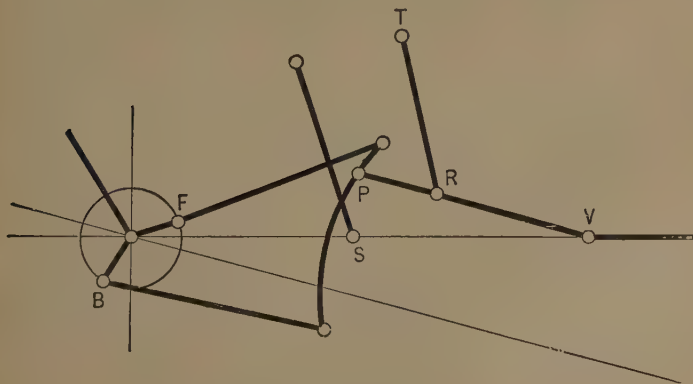

Fig. 166. Gooch Valve Gear, Open Rods.
known as the Gooch gear, is outlined in Fig. 166, with the links uncrossed. In *B* is the center of the backing eccentric; *F* that of the forward eccentric; *S* being the saddle and the point of suspension of the link; *P* the block attached to the radius-rod *PV*, that is raised and lowered by the hanger *RT*, which is carried by a bell-crank lever moved by a hand lever in the same way as with the Stephenson gear.
A. It must be equal that of the radius rod, as in Fig. 166.